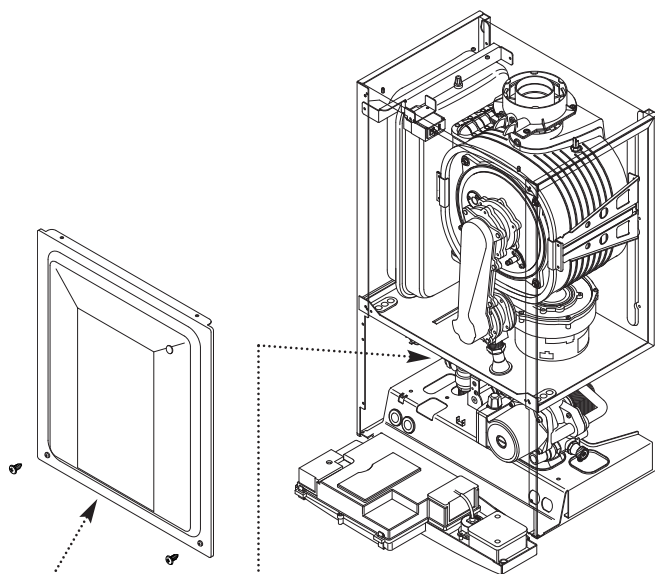

Fig. 74
4. Remove the screws securing the inner door panel. Lift the panel slightly to disengage it from the studs on top of the case (Fig. 74).